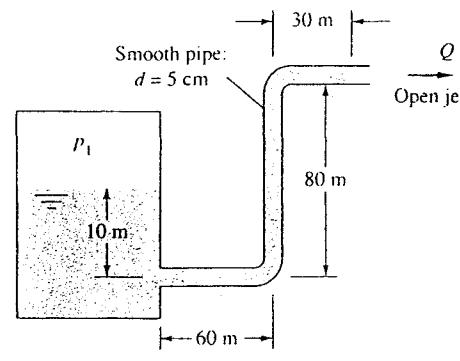

Fig. P6.52
**6.52** The pipe flow in Fig. P6.52 is driven by pressurized air in the tank. What gage pressure  $p_1$  is needed to provide a 20°C water flow rate  $Q = 60 \text{ m}^3/\text{h}$ ?
**6.53** In Fig. P6.52 suppose  $p_1 = 700 \text{ kPa}$  and the fluid specific gravity is 0.68. If the flow rate is  $27 \text{ m}^3/\text{h}$ , estimate the viscosity of the fluid. What fluid in Table A-5 is the likely suspect?